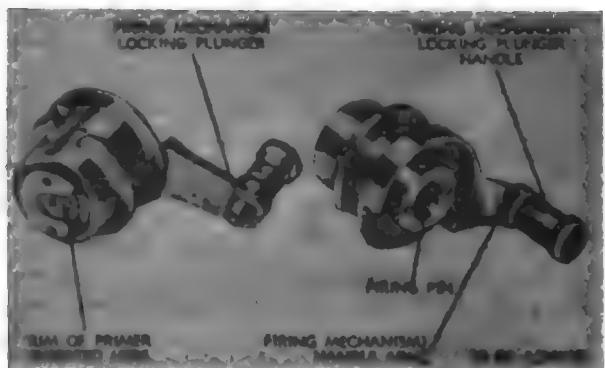
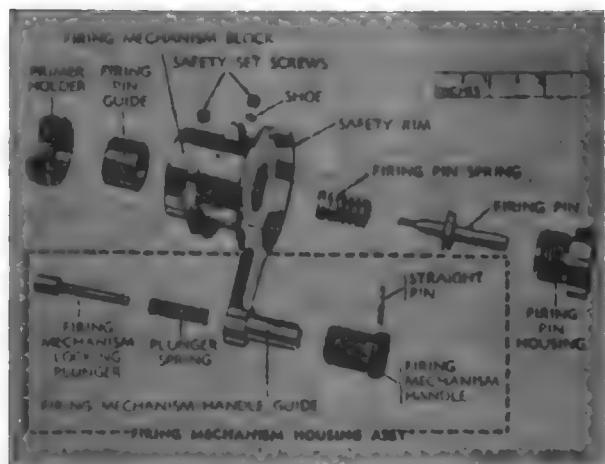
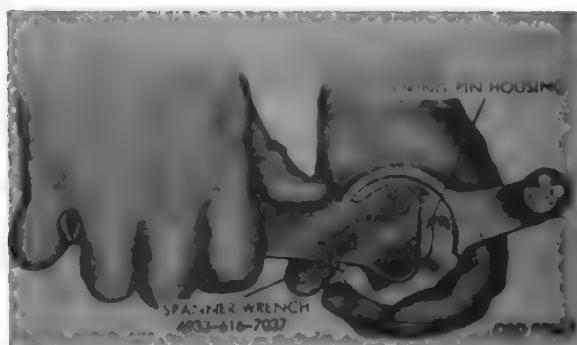

Figure 122. Firing mechanism M1—front and rear views.
Figure 123. Firing mechanism M1—exploded view.
Figure 124. Disassembling or assembling firing mechanism M1.
a. The firing mechanism M1 (figs. 122 and 123) consists of the firing mechanism housing assembly, firing pin, and related parts. The firing pin housing, firing pin guide, and the primer holder retain the firing pin position. Safety setscrews lock the firing pin housing and the primer holder in position. The firing mechanism M1 screws, as a unit, into the firing mechanism housing in the rear end of the breechblock carrier (fig. 86).
b. The firing mechanism housing assembly consists of a block to which is welded the locking plunger guide; the block is a cylinder with a safety rim extending around the major portion of the rear of the block. This rim prevents the percussion hammer from striking the firing pin (fig. 122) unless the firing mechanism M1 is screwed fully into the firing mechanism housing in the adapter with the locking plunger engaged.
d. The firing pin is held in the firing mechanism housing assembly by the firing pin housing at the rear and by the firing pin spring, firing pin guide, and primer holder at the front. The firing pin housing screws into the rear of the firing mechanism housing assembly and is locked by a safety setscrew. A copper shoe is inserted ahead of the screw to prevent damage to the threads of the housing. The firing pin guide fits, closed end forward, in the forward end of the firing mechanism housing assembly. The firing pin spring is compressed between the guide and the firing pin. The primer holder screws into the front of the firing mechanism housing assembly, holding the guide and spring in place. Its flanged front has a "U" shaped slot (fig. 122) to receive the flanged end of the primer. The primer holder is locked in the firing mechanism housing assembly by a safety setscrew (fig. 123). Holes are provided in the exposed heads of the holder and housing for insertion of the firing mechanism wrench during assembly and disassembly.
b. To remove the firing mechanism, pull the firing mechanism handle (fig. 122) to the rear against its spring pressure, and turn it counterclockwise to free the firing mechanism.
c. To install the firing mechanism in its housing, turn it clockwise into the housing until the firing mechanism handle arm (fig. 122) contacts the firing mechanism stop stud at the rear of the breechblock carrier (fig. 86) and the firing mechanism safety latch moves to the right.
a. Remove both safety setscrews from the firing mechanism housing assembly (fig. 123). Do not loosen the shoe under the setscrew for the firing pin housing. Unscrew (clockwise) the firing pin housing from the rear of the firing mechanism housing assembly, using the firing mechanism spanner wrench (fig. 124).
b. Remove the firing pin and the firing pin spring from the rear of the firing mechanism housing assembly (fig. 123). Push the copper shoeout of the setscrew hole if it has not already come out.
d. To remove the firing mechanism locking plunger, handle, and spring, drive out the straight pin holding the handle to the end of the locking plunger (fig. 123). When the pin is removed, the plunger and plunger spring may fly out of the handle guide and should be retained by the hand and removed. Remove the handle from the handle guide.
c. If the firing mechanism locking plunger is inoperative, the locking plunger spring may be broken. Disassemble the mechanism (par. 89) and replace the locking plunger spring (fig. 123), if it is defective.
a. Insert the firing mechanism locking plunger spring in the firing mechanism handle guide, from the front (fig. 123). Insert the small end of the locking plunger through the spring and guide, and push it in against the spring pressure. Place the handle on the end of the plunger and align the holes in the handle with the hole in the end of the plunger. Then install a 8/32 x 18/16 straight pin to fasten the handle to the plunger.
b. Place the firing pin guide (fig. 123) in the forward end of the firing mechanism housing assembly with the hollow portion of the guide toward the rear of the housing
c. Insert the firing pin spring into the firing pin guide through the rear of the firing mechanism housing assembly. Insert the rounded end of the firing pin into the inner end of the firing pin housing (fig. 123), and screw the housing (counterclockwise) into the rear end of the firing mechanism
housing assembly, using the firing mechanism spanner wrench (fig. 124). As the housing approaches its seat, it should be screwed carefully, making sure that the firing pin point properly enters its hole in the center of the guide. When the firing pin housing is firmly seated against the rear of the firing mechanism housing assembly, insert the copper shoe into the setscrew hole to protect the threads of the firing pin housing. Insert and tighten the setscrew.